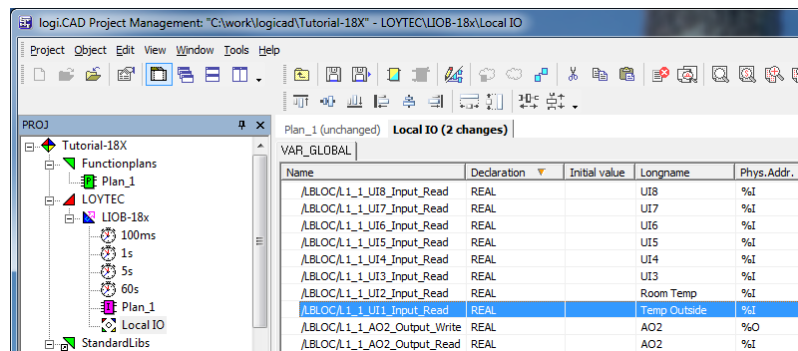

Figure 7: Exposed PLC data points appear in LogiCAD
10. The data points now appear as variables in LogiCAD in a folder under the device folder. The folder is named specific to the technology of the data points, e.g. 'Local IO' for all local I/Os that are exposed as a PLC variable. An example is shown in Figure 7.